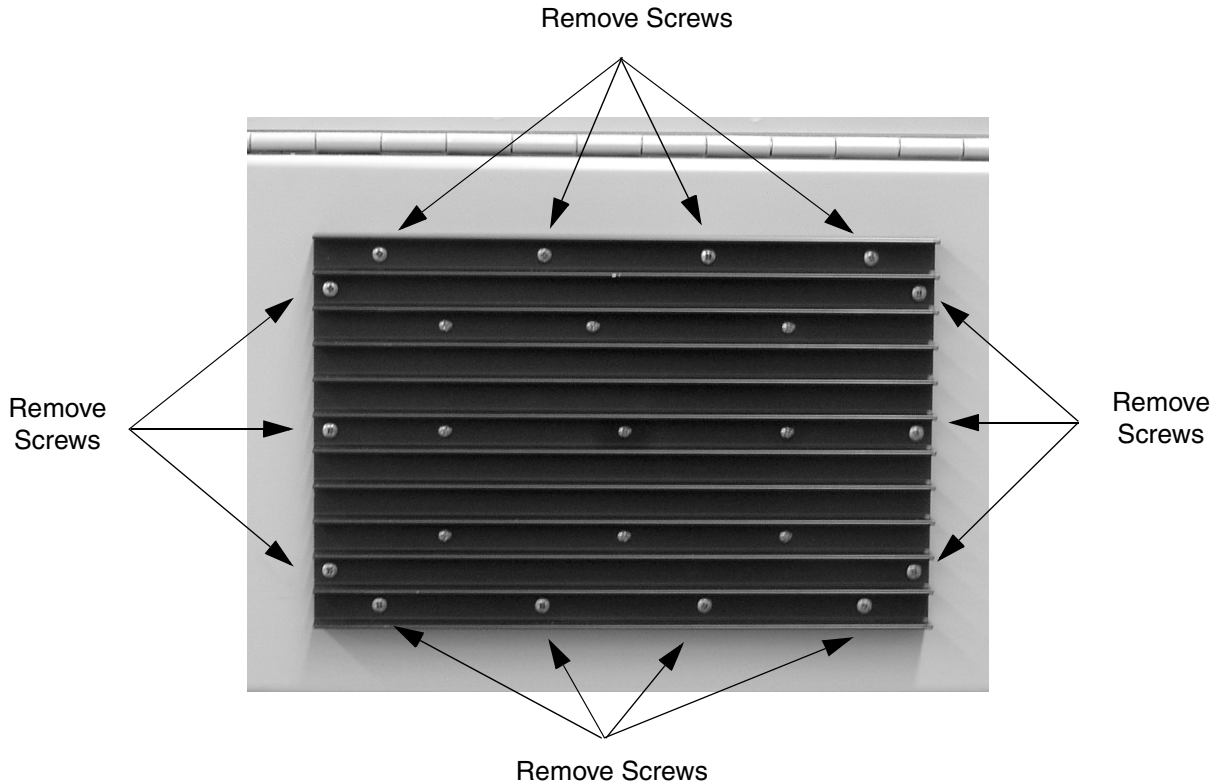

Figure 10: Remove 14 mounting screws to detach amplifier assembly from cabinet.
- 1) Remove the Phillips screws which hold the amplifier into place, refer to **Figure 10**. The nuts holding the screws are pressed into the cabinet